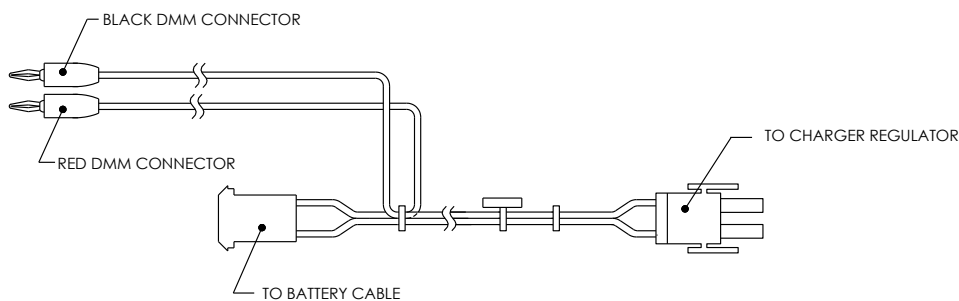

Figure 100: Current Measurement Troubleshooting Cable
5. Connect the current measurement troubleshooting cable (Part No. 2017350-xxx see Figure 100:), to the known good battery.
5. Connect the current measurement troubleshooting cable (Part No. 2017350-xxx see Figure 100:) to known good battery, and connect to the circuit board.